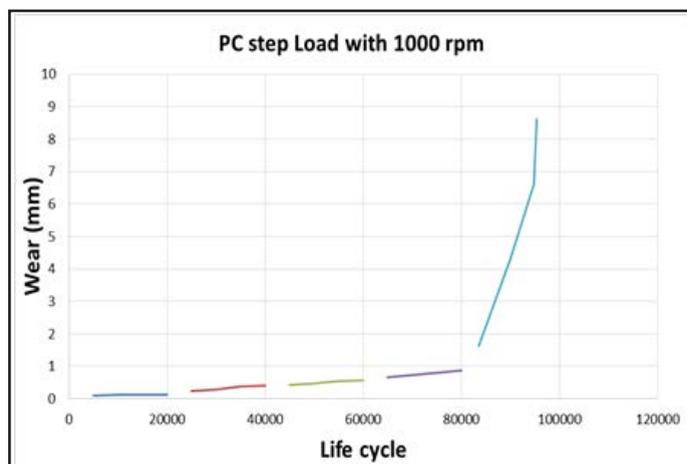
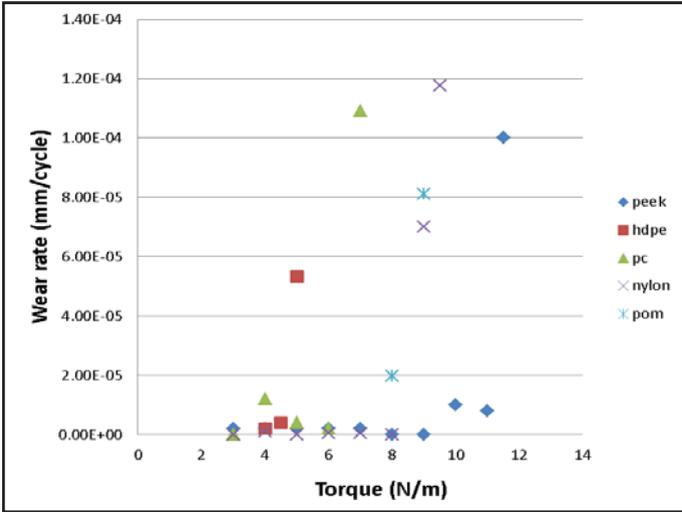

Figure 2 Experimental results for polycarbonate gears.
Figure 5 Wear rate against load for the same five polymer gear pairs.
testing on multiple gear pairs at multiple torques. Figure 2 shows the experimental results for an incremental load test of a polycarbonate gear pair running at 1,000 rpm. The gears were loaded at 3 Nm for one hour, after which the load was increased to 4, 5, 6 and 7 Nm for one hour running under each load. Under 7 Nm the polycarbonate gears failed due to pitch fracture.
Figure 5 shows wear rate against torque for gear pairs manufactured using the 5 different polymer gear materials. The wear rate considered here is the material depth removed per cycle, given by the linear wear period slope as shown (Fig. 2). All tests were run at a constant speed of 1,000 rpm. The experimental results show that, for all polymer gear pairs tested, below a certain load the gear surfaces wear slowly and a relatively long life for the gears will be achieved (nearly 10^7 cycles), while above a critical torque wear rate accelerates rapidly and leads to rapid failure. The observed critical torques for each gear pair are about 6 Nm for polycarbonate (PC); 8 Nm for POM; 8.5 Nm for PA; 11 Nm for PEEK; and 4.7 Nm for high-density polyethylene